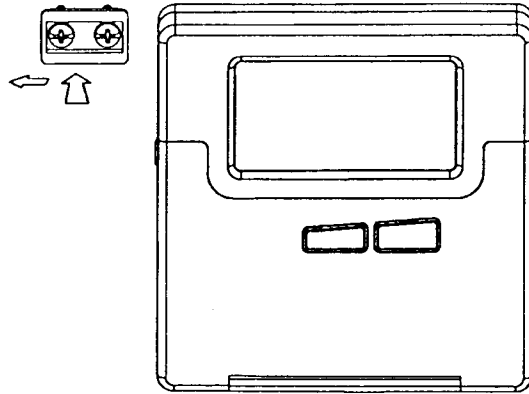

Figure 6
2. Slide the Wall Mount Programmable Transmitter onto the Wall Mount bracket as shown is figure 6.